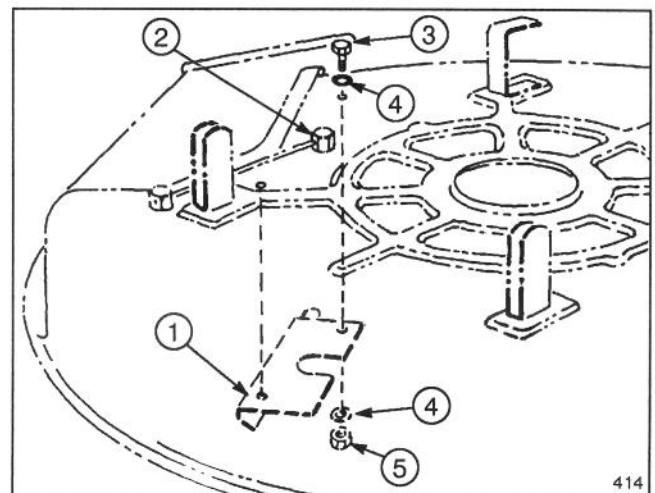

Figure 3
1. Remove (2) capscrews, washers and lock nuts securing baffle to underside of mower housing (Fig. 3).
- **SIDE DISCHARGING OR BAGGING**—To side discharge or use bagging attachment, remove the wing nut and hinge pin securing the discharge cover to the mower housing and remove the discharge cover. **NEVER REMOVE THE GRASS DEFLECTOR FROM THE MOWER HOUSING.** If the complete kit is removed, reinstall the deck baffle (Fig. 3).